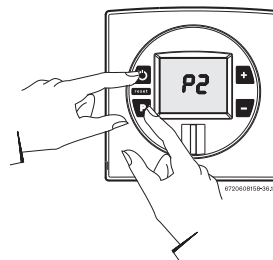

Fig. 66
- ▶ While holding the Program (P) button, press the ON/OFF button to turn ON the heater (see Fig. 66). As soon as '188' flashes on the display, release the Program button. The display should now read P2. Press  button until "P1" appears on display.